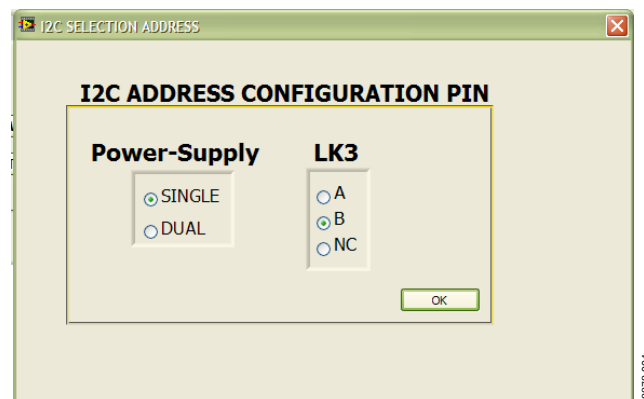

Figure 4. I2C SELECTION ADDRESS Window
4. For the EVAL-AD527xSDZ only, an additional pop-up window appears, **I2C SELECTION ADDRESS**. The I²C address is selected by LK3, as shown in Figure 4.